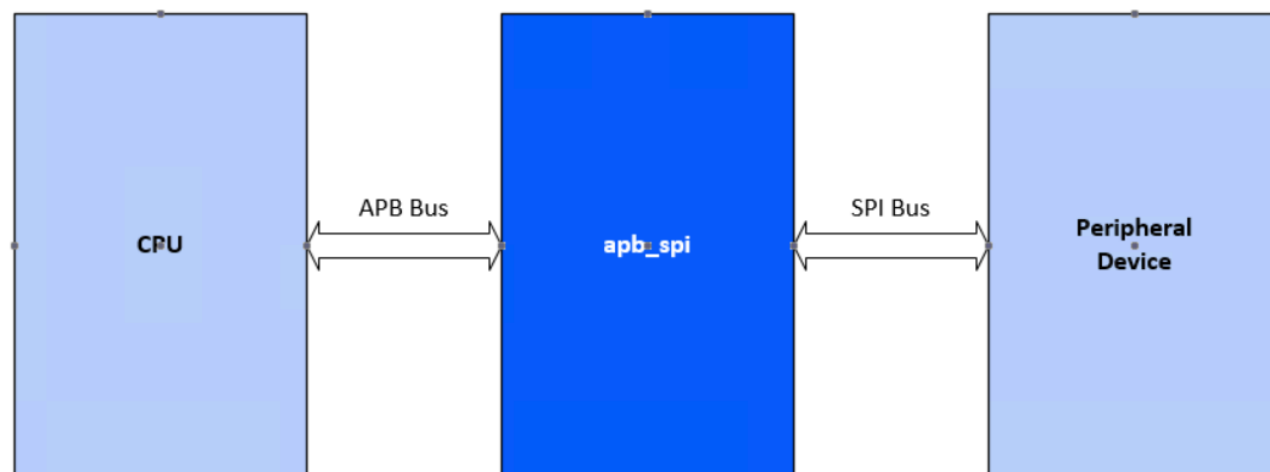
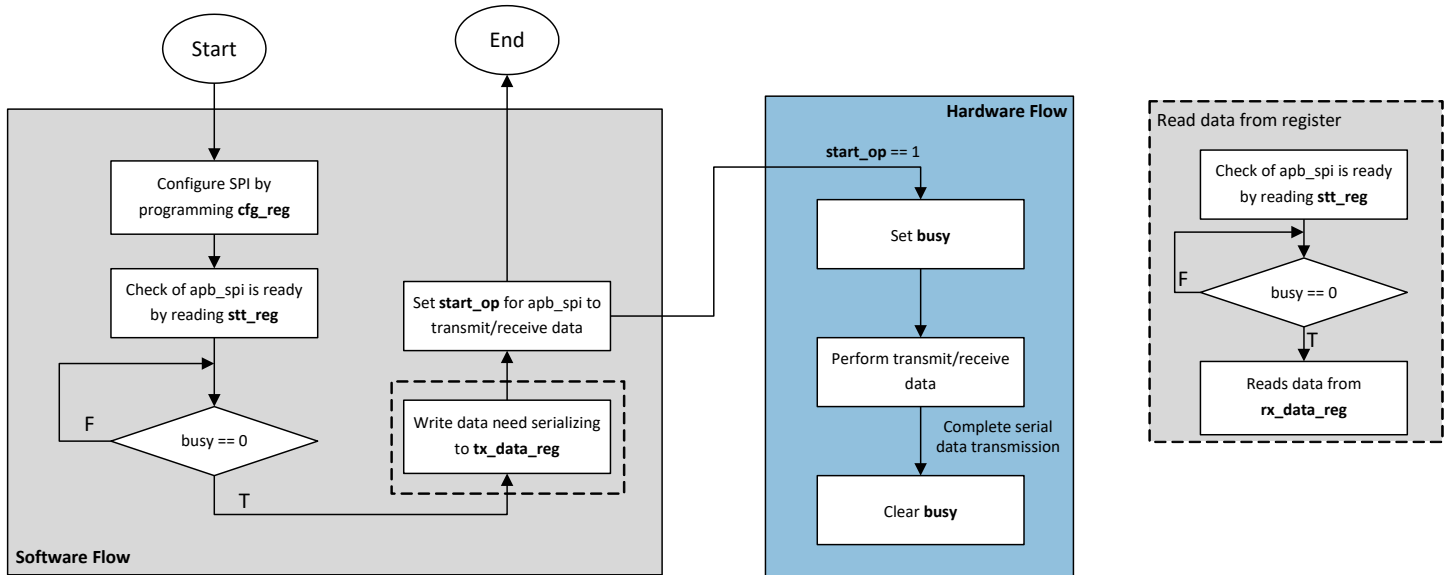

Figure 6. System using apb\_spi
Figure 7. APB SPI flow control
**Figure 6** illustrates how **apb\_spi**, the peripheral device, and the host are connected. The control flows of the module are shown in **Figure 7**.